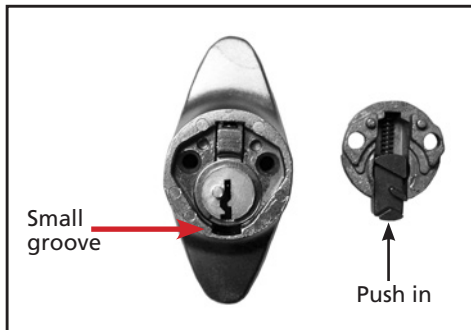

Figure 7
7. It is now time to place the cap back on the end of the handle. This can be a bit tricky. You must hold in the latch piece while placing the cap on the back of the lock. The bottom of the latch piece must fit into the small groove at the bottom of the cylinder. **(Fig. 7)**